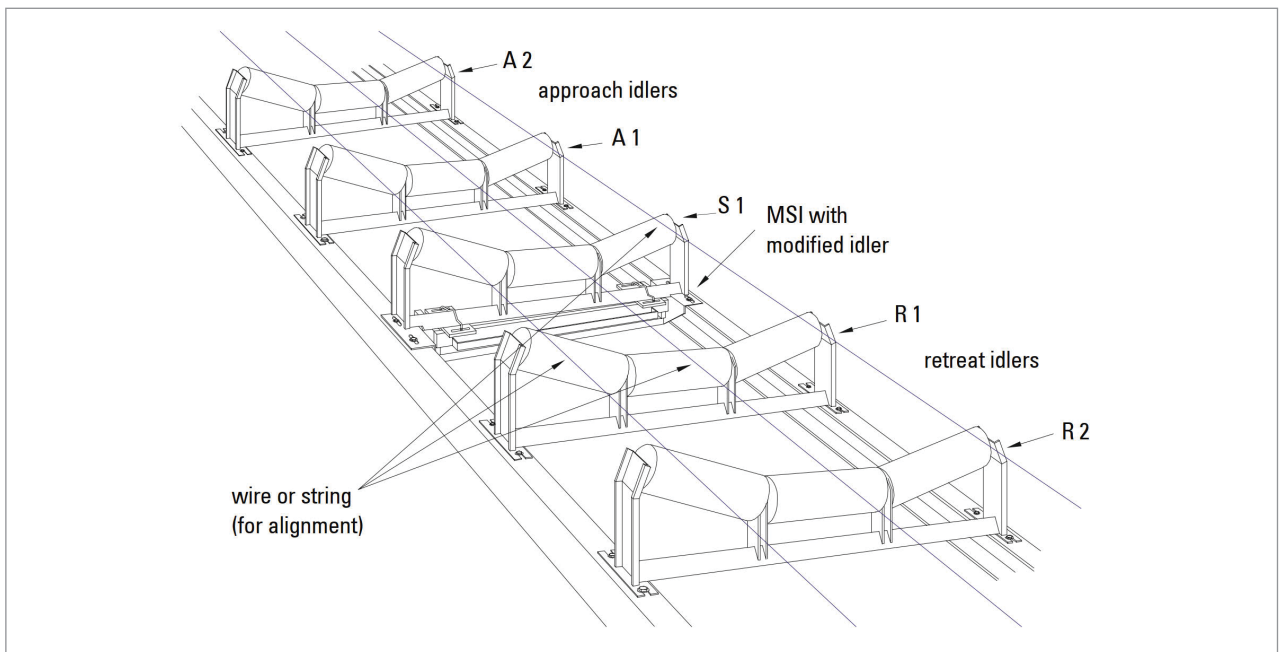

Figure 8 Idler detail showing the proper alignment of idlers on each side of a belt scale, which is critical for belt scale function and accuracy.
- **Proper idler alignment.** The proper alignment of idlers in the scale area is critical for belt scale function and accuracy. Properly align the scale idlers and position at least two idlers on each side of the scale. Figure 8 shows an example of correct idler alignment. Most belt scales, including pivot-lever ones, require three idlers while belt scales using a parallelogram-style load cell may only need two idlers, which helps simplify installation and maintenance.